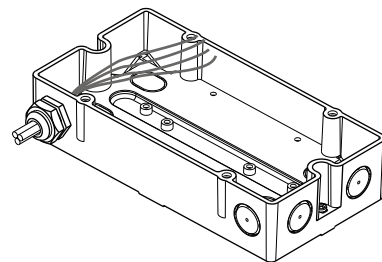

Fig. 6
4. Secure the M20 cable glands on the housing and guide in the cables (Fig. 6).